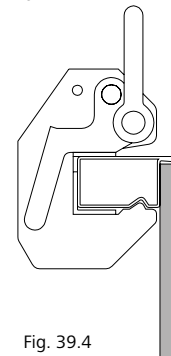

Fig. 39.4
3. Release the safety lever and press it back to its start position so that the crane hook is locked completely (Fig. 39.4).